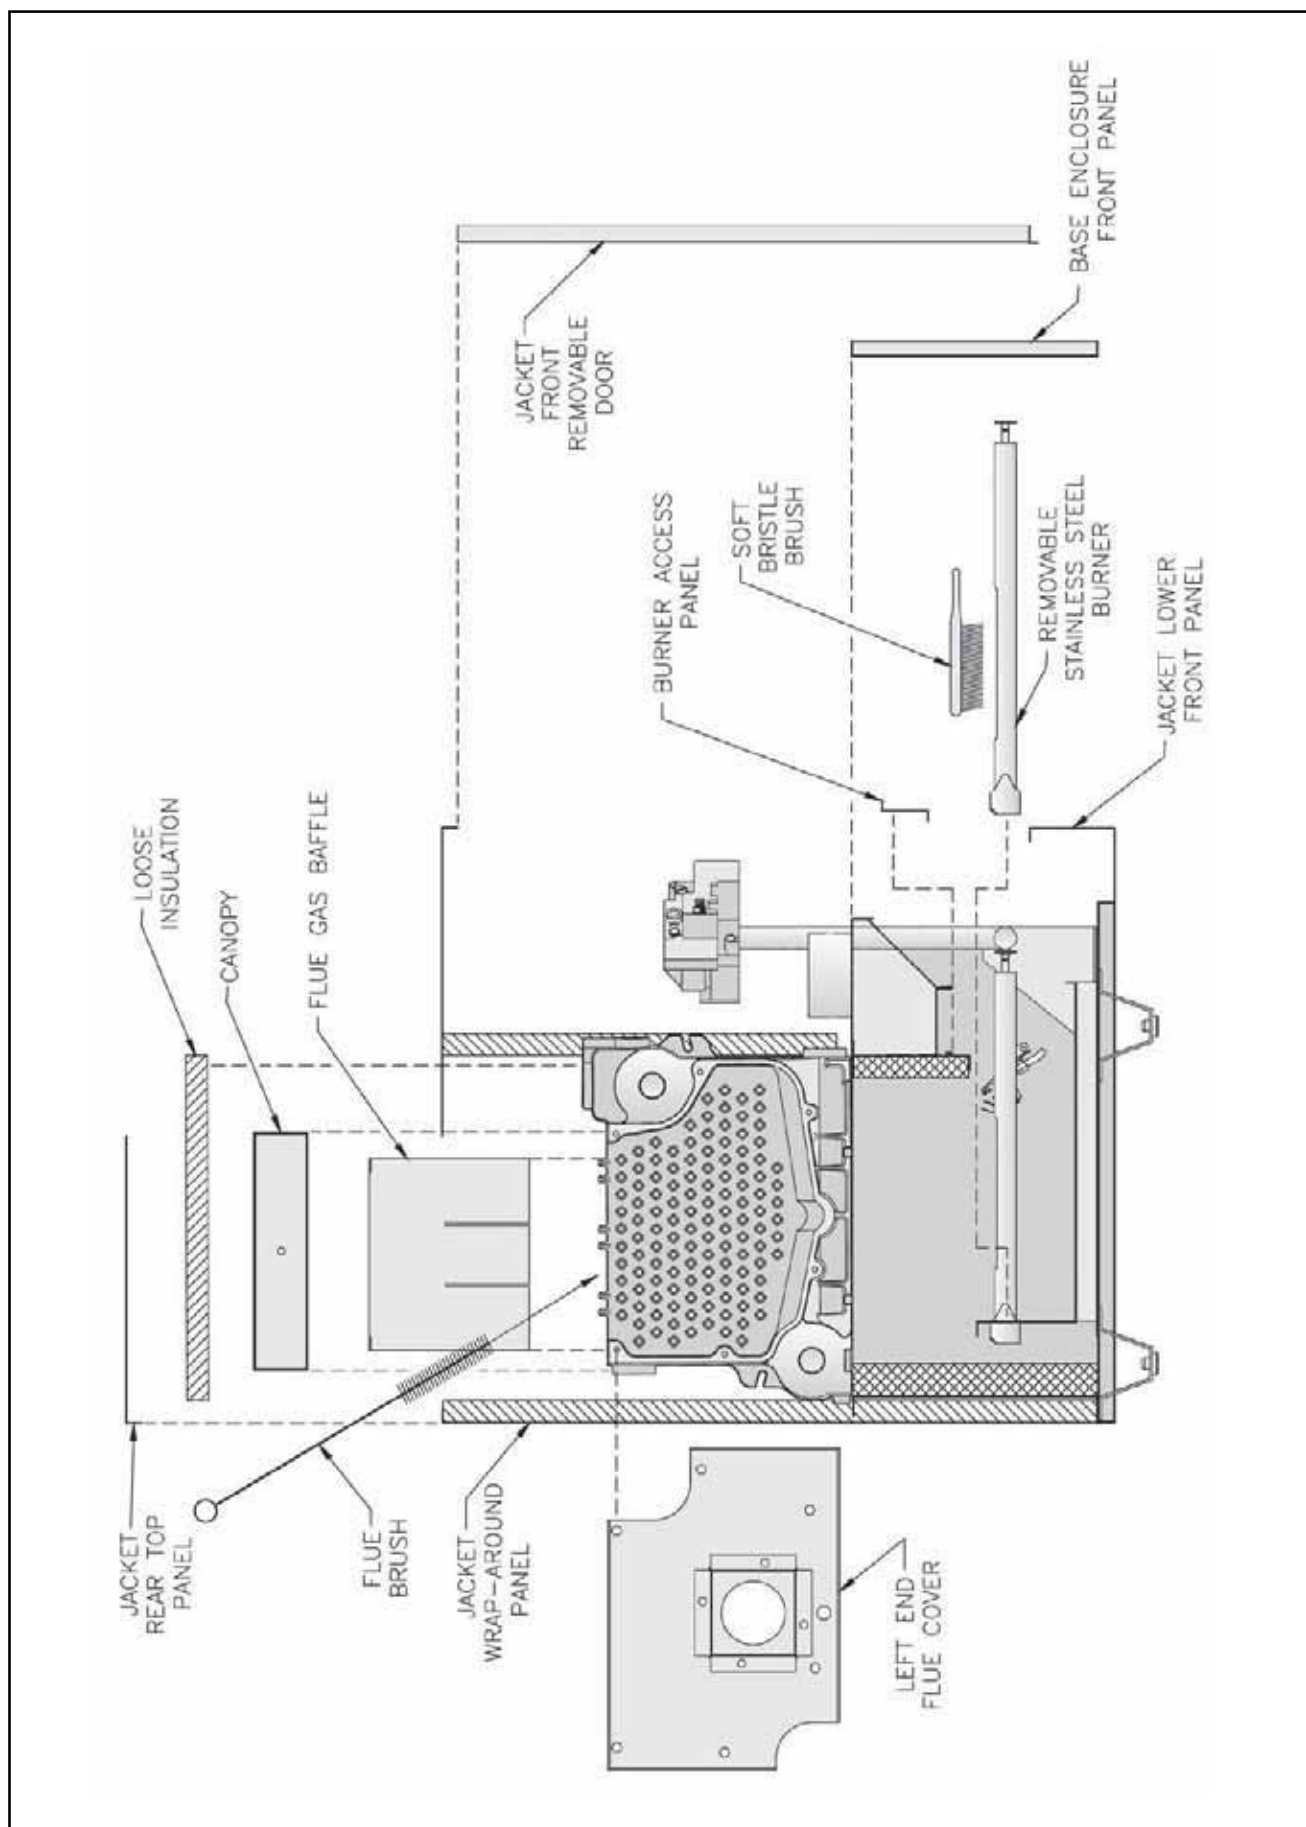

Figure 53: Cleaning Boiler Flue Passages
1. Remove Main Burners. See Figure 53.
6. Inspect flue passages. Clean with flue brush. See Figure 53.
2. Clean main burners. Brush top of burners with soft bristle brush. See Figure 53. Vacuum to remove any dirt and lint.
- b. Main burners must be properly secured in burner tray slot at rear of firebox and over gas orifice. See Figure 53.